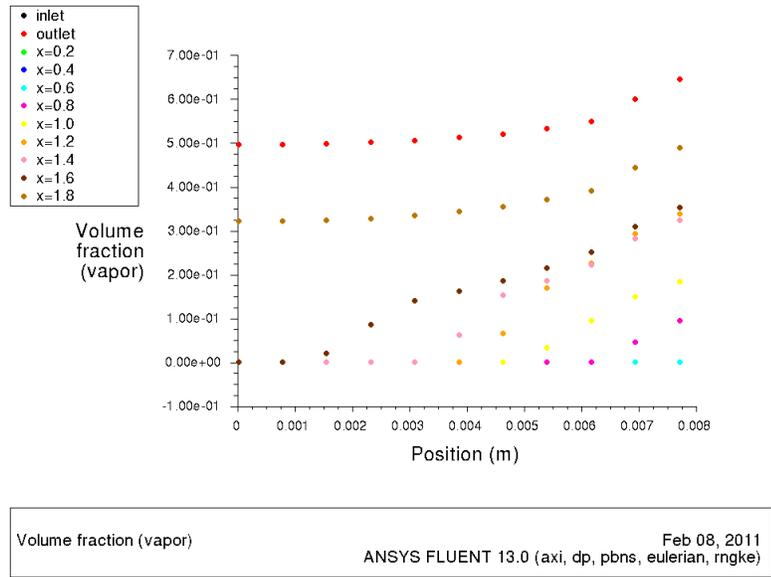

Figure 9: Profiles of Vapor Volume Fraction at Various Locations Along the Pipe
- (f) Click Plot (see Figure 9).
*Figure 9 shows radial profiles of vapor volume fraction at various locations along the pipe.*